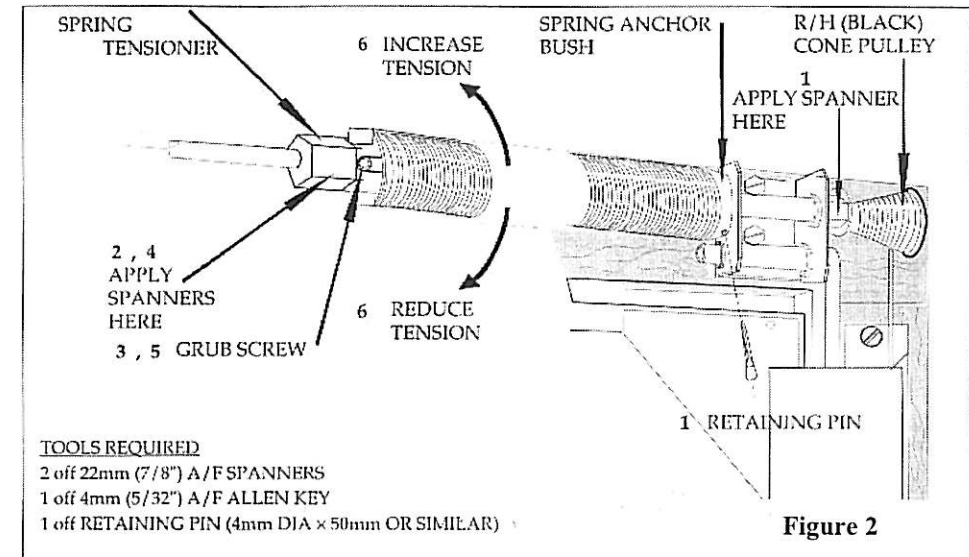

Figure 2
1. Grip R/H Cone Pulley (Black) with spanner and, by turning upwards, align holes in spring anchor bush and spring shaft. Insert retaining split pin or suitable nail into this hole as shown (Figure 2).
2. Hold SPRING TENSIONER firmly with spanner (See Figure 2).